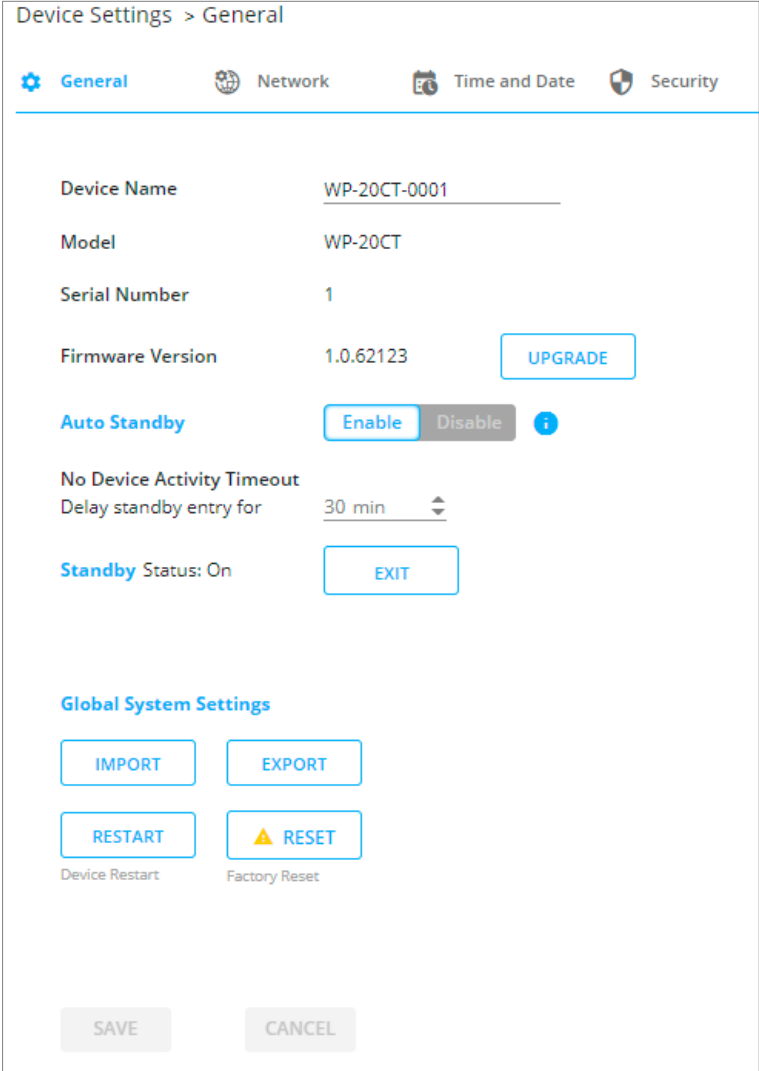

Figure 16: Device Settings > General Page
1. Go to the Device Settings > General page (Figure 16).
- Click **Restart** on the Device Settings > General page (Figure 16).
- Click **Reset** on the Device Settings > General page (Figure 16).